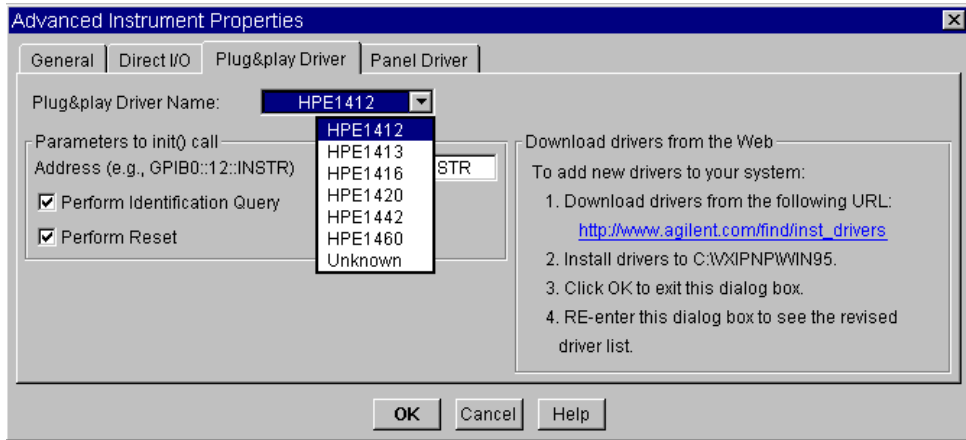

Figure 3-31. Selecting a VXIplug&play Driver
3. In the Advanced Instrument Properties dialog box, toggle Live Mode: to OFF and select the Plug&play Driver folder. Click the Plug&play Driver Name: field to display the drop-down menu which lists all the drivers installed on the computer. This example uses the HPE1412 driver, as shown in Figure 3-31.